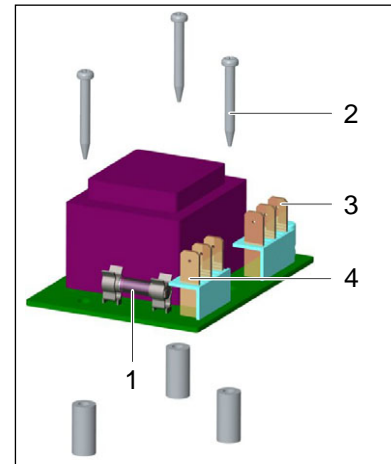

Fig. 11 Fan power supply unit in control unit
2. Check the miniature fuse on the fan power supply unit (50 mA slow-burning) (Fig. 11).
2. Pull off connection leads from the terminals on the fan power supply unit (Fig. 11).
3. Undo three mounting bolts (2) and remove the power supply unit.